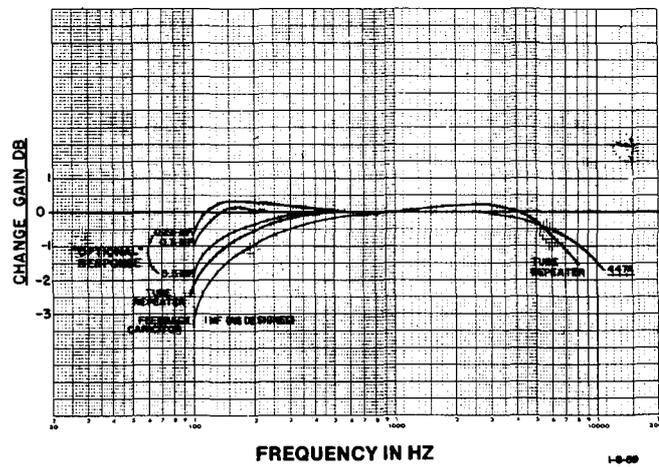

Fig. 9 — 447A Amplifier (24 V Supply)
3.05 Frequency characteristics are shown in Figure 9. The optional responses indicate how the low frequency characteristic may be modified by reducing the value of the capacitor in the feedback circuit.